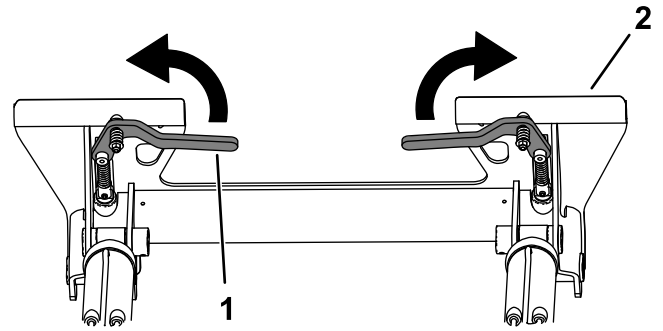

Figure 27
2. Rotate the quick-attach levers outward to raise the quick-attach pins (Figure 27).